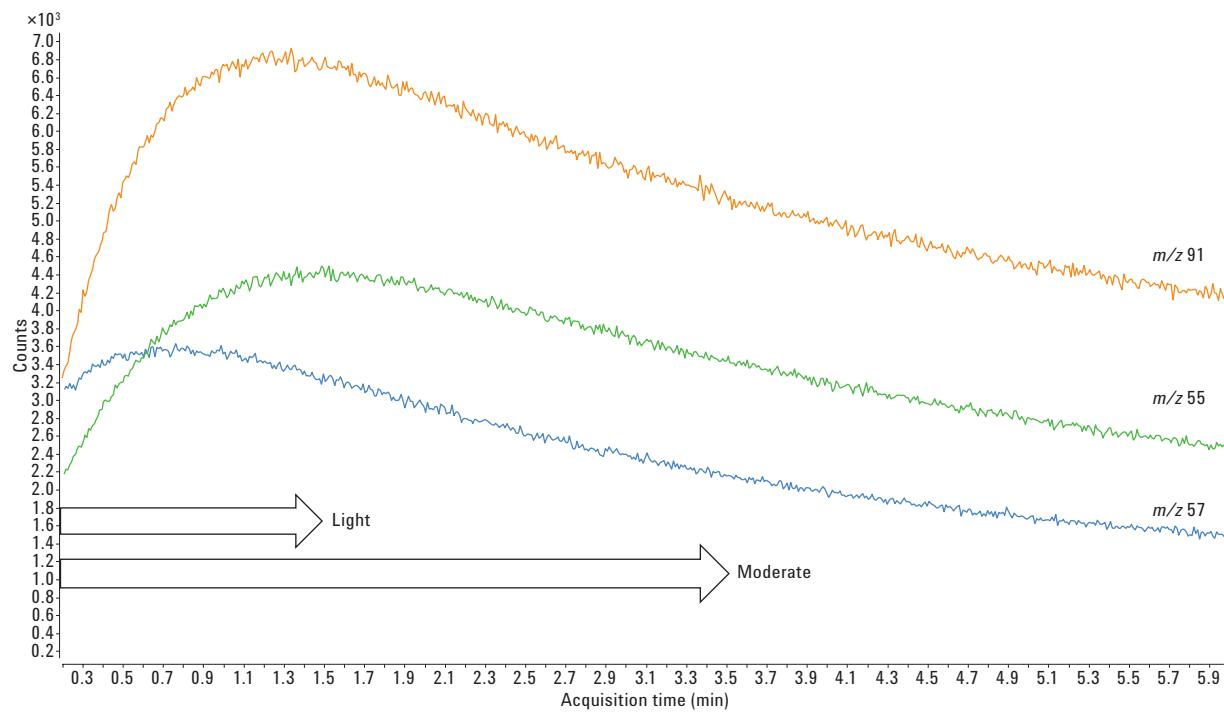

Figure 9. EICs for Clean Only JetClean for the Agilent 5977B SQ-HES over the range of 0 to 6 minutes.
In Clean Only mode, a data file is acquired during the treatment process as a record. Interpreting this record provides a great deal of insight into the status of the source, and how it is changing as the treatment is applied. The familiar MS parameters can be edited to record the data file, and these should be set before entering the Clean Only mode. Scan mode acquisition provides the most comprehensive record until ions that represent good indicators of the routine source contamination are discovered. If these ions are found, SIM is preferred. The upper end of the mass range need not extend pass a few hundred m/z ($< m/z 500$), with 300 m/z usually being sufficient. The usual lower end is 45 or 50 mass units. Starting the scan at mass 29 (TQ, with lowered mass cutoff of 30) or 28 (SQ) can be used to monitor hydrogen indirectly through the formation of N_2H^+ (m/z 29) to confirm that hydrogen is being applied. A number of unusual species formed and readily measured in SQ are H_3^+ (m/z 3), HeH^+ (m/z 5), ArH^+ (m/z 41), and so forth. The scan speed should be very low; one scan per second is adequate to keep the datafile small, and still record the changes in time. Figure 9 shows an example of such data. It is important to set the gain factor (GF) according to the scan range and source type: low GF if you include N_2 or N_2H , and an increased GF based on the species intensities seen in the scan window.